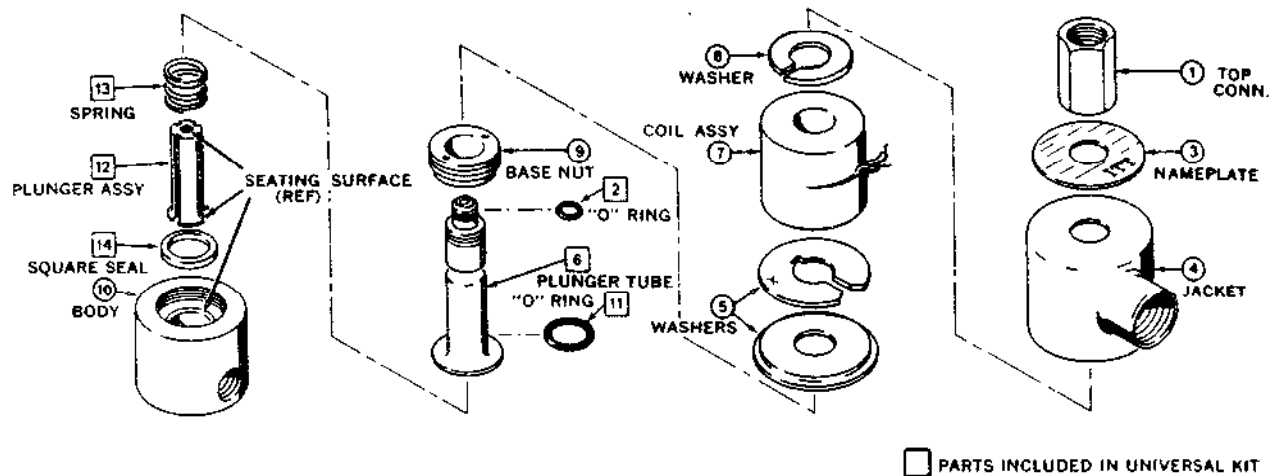

Fig. 2. Exploded View of Typical S306 Model "A" Valve
ONE OF THE WASHERS (5) HAS "X" MARKED ON ONE SIDE. THE SIDE MARKED "X" MUST BE PLACED NEXT TO COIL. SEE FIG. 2.